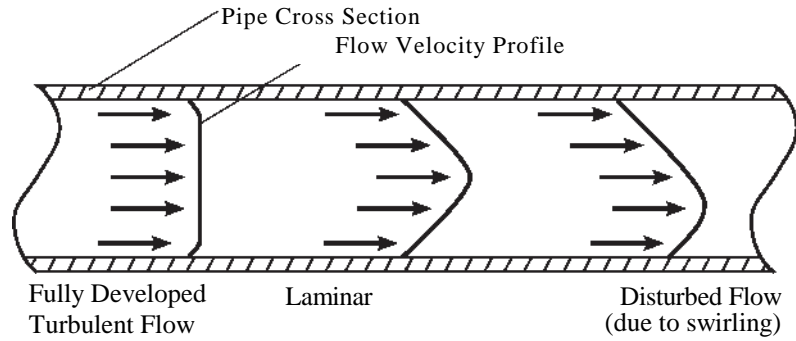

Fig. 3
- There are two basic types of flow profiles; turbulent and laminar (see figure 3). **Turbulent** flow exists when the speed of the fluid flowing in the pipe is nearly constant across the entire width of the pipe. This is typical of low viscosity fluids; like water, flowing at high velocity. **Laminar** flow exists when the speed of the fluid flowing in the center of the pipe is greater than the speed of the fluid at the outer edge near the pipe wall. This is typical of high viscosity fluids flowing at low velocity. Because the F- 1000 is measuring the fluid near the pipe wall only (especially in larger pipe sizes), a constant flow velocity across the flow stream is required.